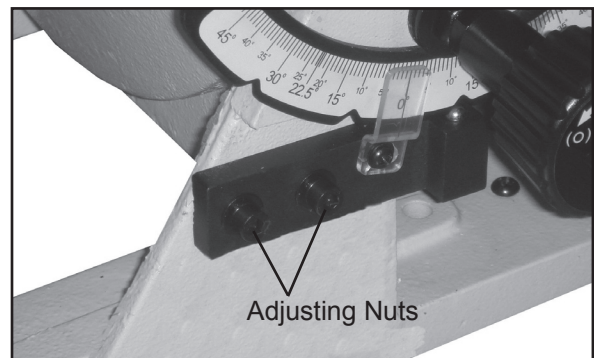

Fig. 03
2. If adjustment is needed move the table so that it rests 90 degrees from the table, and loosen the two adjusting nuts (Fig. 03) on the stop bar and slide bar left or right for the proper adjustment. Once the proper adjustment is made tighten the two adjusting nuts on the stop bar.